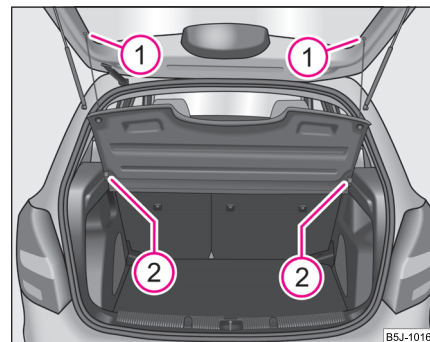

Fig. 59 Removing the luggage compartment cover
- Unhook the support straps on the tailgate ① ⇒ fig. 59.
- Remove the luggage compartment cover from the holders ② by pulling to the rear or with adequate blows to the bottom side of the luggage compartment cover in the area between the holders. ►
- To re-install, place the luggage compartment cover on the contact surfaces of the side trim panels and press the luggage compartment cover into the holders ② by pushing forward and then hang the support straps ① on the tailgate.